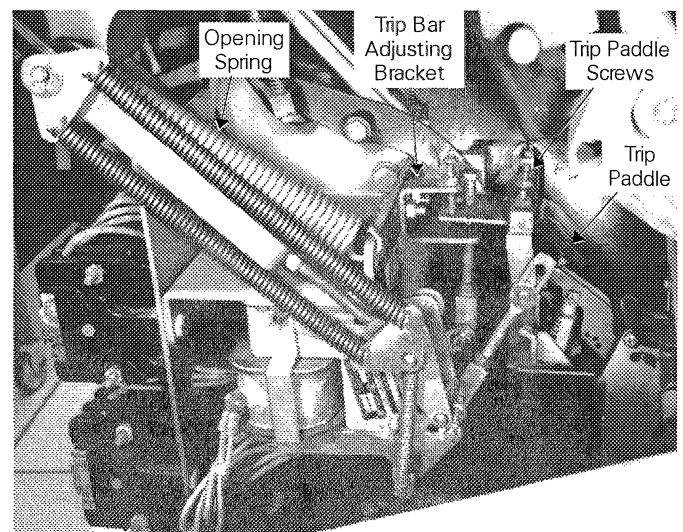
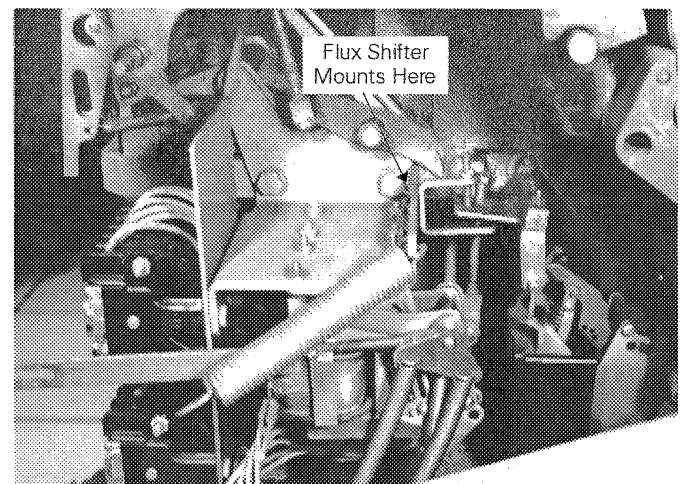
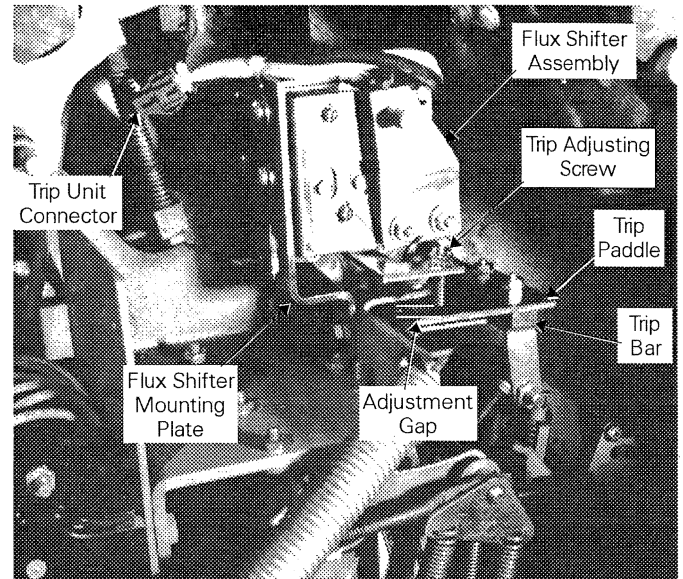

Figure 2. Existing trip device and trip paddle.
Figure 3 Breaker ready for installation of the fluxshifter assembly.
Figure 4. Mounting the flux shifter and new trip paddle.
1. Remove the three trip paddles on the common trip bar, as shown in Figure 2. The center trip paddle must be accessed from the bottom of the breaker.
2. Remove the two 1/4-20 bolts, nuts, and lock washers securing the trip arm adjusting bracket, shown in Figure 2, to the front frame.
3. Disconnect the opening spring, shown in Figure 2, along with any accessory connections, from the movable contact arm. Save all hardware removed for later re installation. Figure 3 shows the breaker with the trip paddle removed, the opening spring disconnected, and the other accessory links disconnected.
4. Attach the flux shifter assembly mounting plate to the front of the angle bracket, as indicated in Figure 3. Use the bolts, nuts, and lock washers removed in step 2, with the bolts going in order through the flux shifter mounting plate, the angle bracket, and the trip arm adjusting bracket, as shown in Figure 4.
5. Attach the new trip paddle to the trip arm with the two hex - head #8-32 x 1" screws and SEMS nuts supplied. The screws should go through the existing latch adjuster and trip bar, and the new trip paddle, as shown in Figure 4.
9. Adjust the trip paddle by setting the gap, as shown in Figure 4, to 0.06 inch with the breaker OPEN.